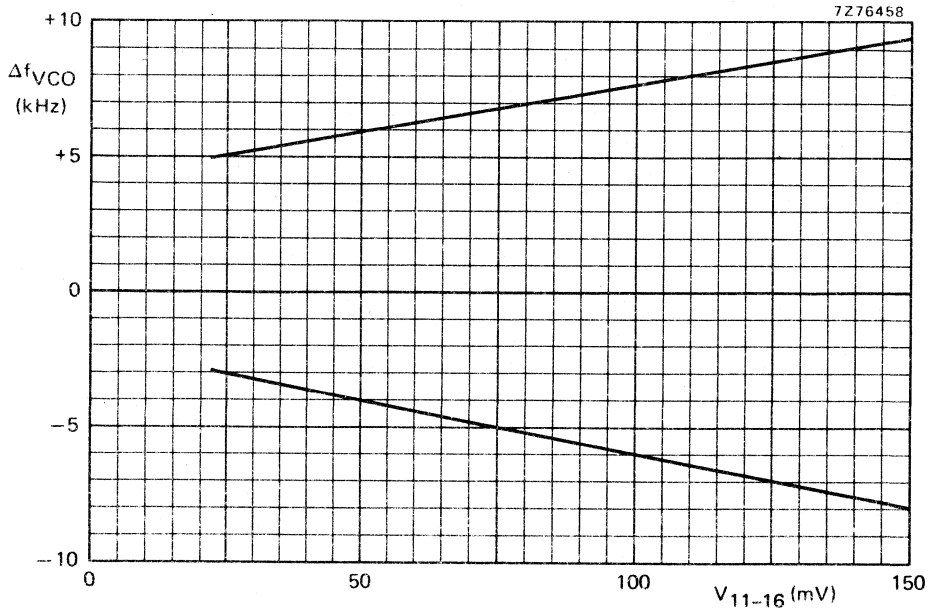

Fig. 7 Typical values of the capture range of the oscillator as a function of the pilot threshold voltage at MUX-input (pin 11).
- See also Figs. 7 and 9. Compensated with RC network on pin 7.